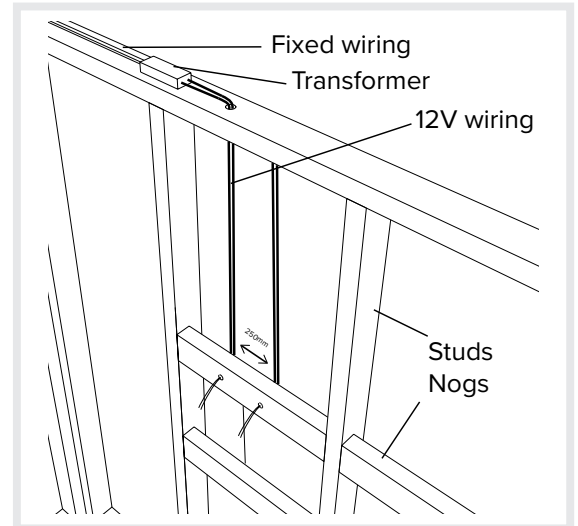

Figure 1.0
The Polo towel rail must be wired by a registered electrician. An isolating switch must be positioned near the towel rail but out of reach from wet areas like baths and showers. A wall or ceiling cavity must be available to conceal the transformer. **All rails must be connected to the 12 Volt transformer in parallel** and cannot be connected directly to 240V supply. See Figure 6.0 Only one end of the pole should be connected to the power source. The other end will need to have wires terminated as 2 separate looms in the rail. See Figure 1.0 and 4b
The towel rail mounting spigot must be fastened to a solid fixing point, eg. timber or brickwork. The mounting face of the towel pole **must be fitted against a solid surface** eg. tiles (not suitable directly onto gib or plasterboard). Recommended location is 600mm above floor, 300mm from any permanent fixing and 250mm between poles. See Figure 1.0
- Typical wiring for timber framed walls is shown in *Figure 1.0*
- Wire requires threading through the Ø15mm insulator hole as shown in *Figure 1.0* and connected to the 12V transformer.